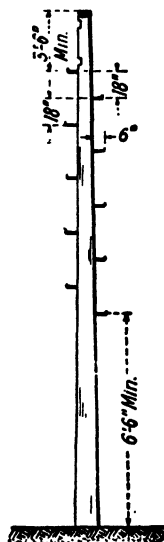

Fig. 10-22. Recommendations on location and spacing of pole steps.
**Spacing.** The steps should be 18 in. apart and located alternately on opposite sides of the pole. The lowest step should not be less than  $6\frac{1}{2}$  ft from the ground. Figure 10-22 illustrates the recommended spacing of pole steps.